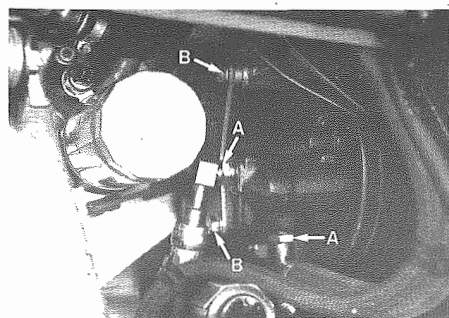

Fig. 13 - A - Raccordi tubi olio
- Staccare i raccordi tubi olio sul corpo pompa (Fig. 13). Chiudere i raccordi con cappucci parapolvere.
- Disconnect oil pipes connectors from pump body (Fig. 13). Close connectors with dust caps.